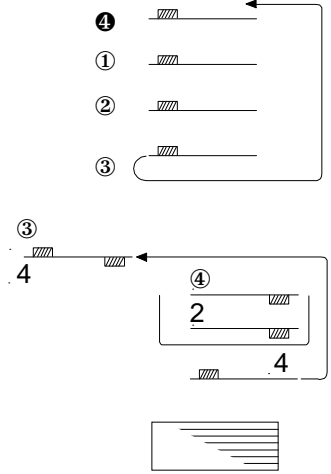

Fig 3
- 3) The 3rd original is scanned. The copy which has been in the stand-by position is fed for copying the 3rd original and then fed out onto the copy tray [Fig 3].